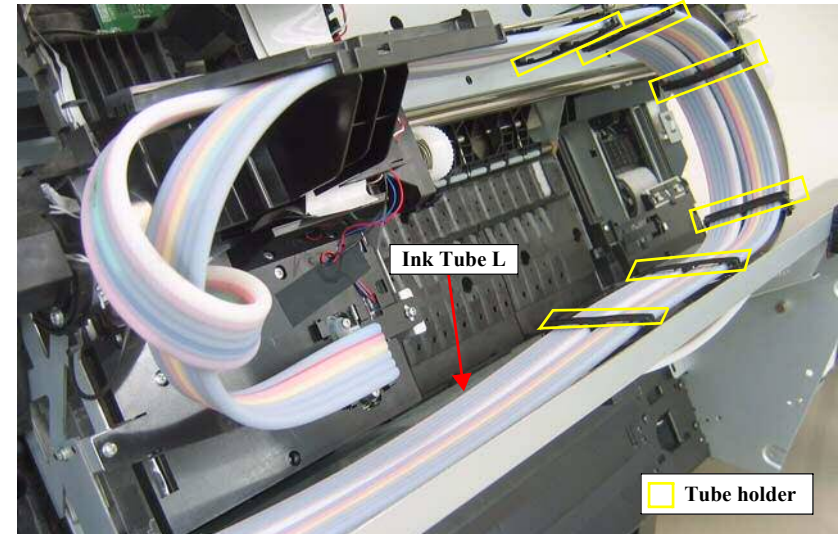

Figure 4-167. Releasing the Ink Tube L (1)
11. Disengage the nine tube holders, and release the Ink Tube L. *See Figure 4-167, 4-168.*